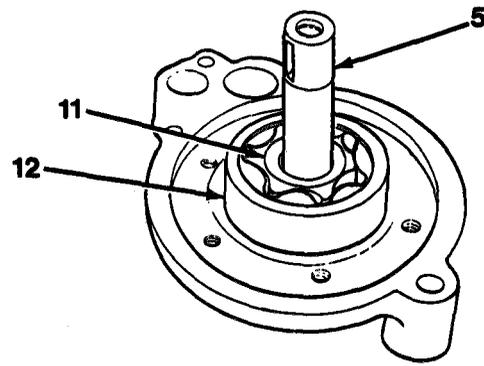
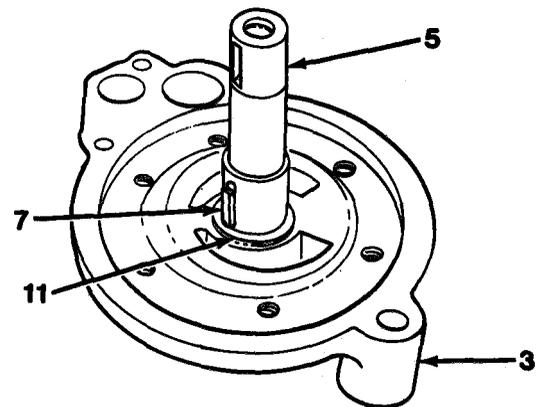
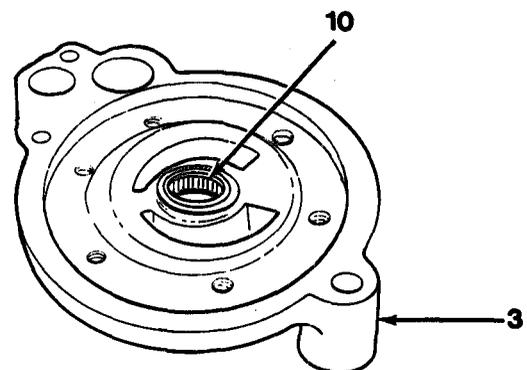

Figure 11-4
Figure 11-5
Figure 11-6
9. Remove thrust race (11) from shaft (5, Figure 11-4).
10. Remove greater assembly (12) from shaft (5).
11. Remove shaft (5) from pump manifold (3, Figure 11-5).
12. Remove woodruffkey (7) from shaft (5).
13. Remove thrust race (11) from shaft (5).
14. Remove bearing (10) from pump manifold (3, Figure 11-6).
1. Press bearing (10) into pump manifold (3, Figure 11-6).
2. Install thrust race (11) into pump manifold (3, Figure 11-5).
3. Install woodruff key (7) into shaft (5).
4. Install shaft (5) into pump manifold (3).